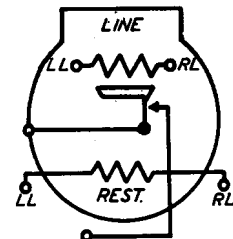

FIG. 29 - WINDING TERMINAL ARRANGEMENT AS VIEWED FROM THE REAR (TERMINAL SIDE) - 22 TYPE DROP
4.02 The winding terminal designations of drops as viewed from the rear (terminal side) are shown on Figs. 29, 30 and 31.